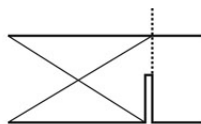

Fig. 10
- > Wait until the cutting-off wheel (22) is running at its full speed before lowering it into the workpiece.
- > Consider the cutting edge when cutting on marked lines. Do not cut directly on the marking but next to it (Fig. 10).
- > Hold the handle to lower the cutting-off wheel (22) slowly with even pressure through the workpiece.
- > Guide the motor unit (19) upward after the cut and switch the product off.
- > Wait until the cutting-off wheel (22) has come to a complete stop before removing the workpiece and waste piece.